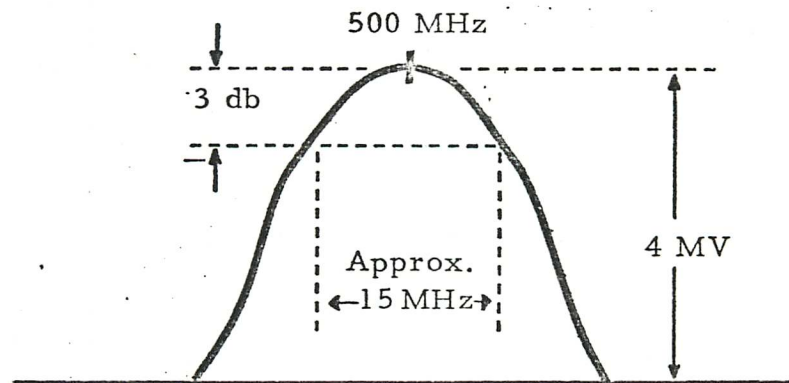

Figure 5-4. RF Amplifier Response.
- (2) Adjust front panel turn crank for a 500 MHz indication on the tuning tape.
- (3) Set the sweep generator and signal generator output frequency to 500 MHz.
- (4) Adjust the horizontal gain of the oscilloscope for full scale deflection.
- (5) Set the vertical gain to 1 millivolt per centimeter and the sweep generator output level for a 4 centimeter RF amplifier response on the oscilloscope.
- (6) Adjust signal generator output and marker SIZE control on the sweep generator for a small "birdie" on the response.
- (7) Locate five variable trimmer capacitors C18, C12, C10, C5 and C3 on the top side of the tuner chassis.
- (8) Slowly adjust C18 for maximum symmetrical response as shown in Figure 5-4.
- (9) Locate C12, again adjusting for maximum symmetrical response. Repeat for C10, C5 and C3. The 3 dB bandwidth is about 15 MHz but will reduce to as little as 10 MHz as the turn crank is rotated to 250 MHz.